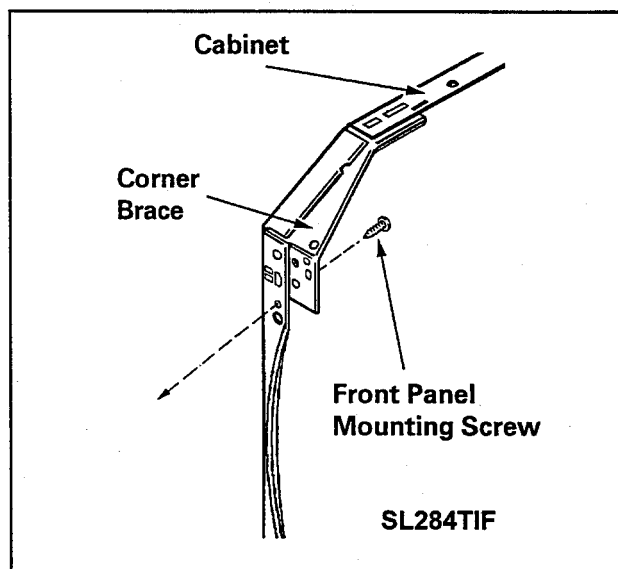

Figure 4-19
2. Insert a thin-bladed tool between the front panel and the top cover assembly, approximately three (3) inches in from each corner. While lifting up on the top cover assembly, press the blade against the wire clips, one side at a time to disengage them. Lift the top cover up to a stationary position.
3. Remove the two 5/16" hex/cross head screws securing the front panel to the upper front corner braces of the cabinet. (Figure 4-19 & 4-20)